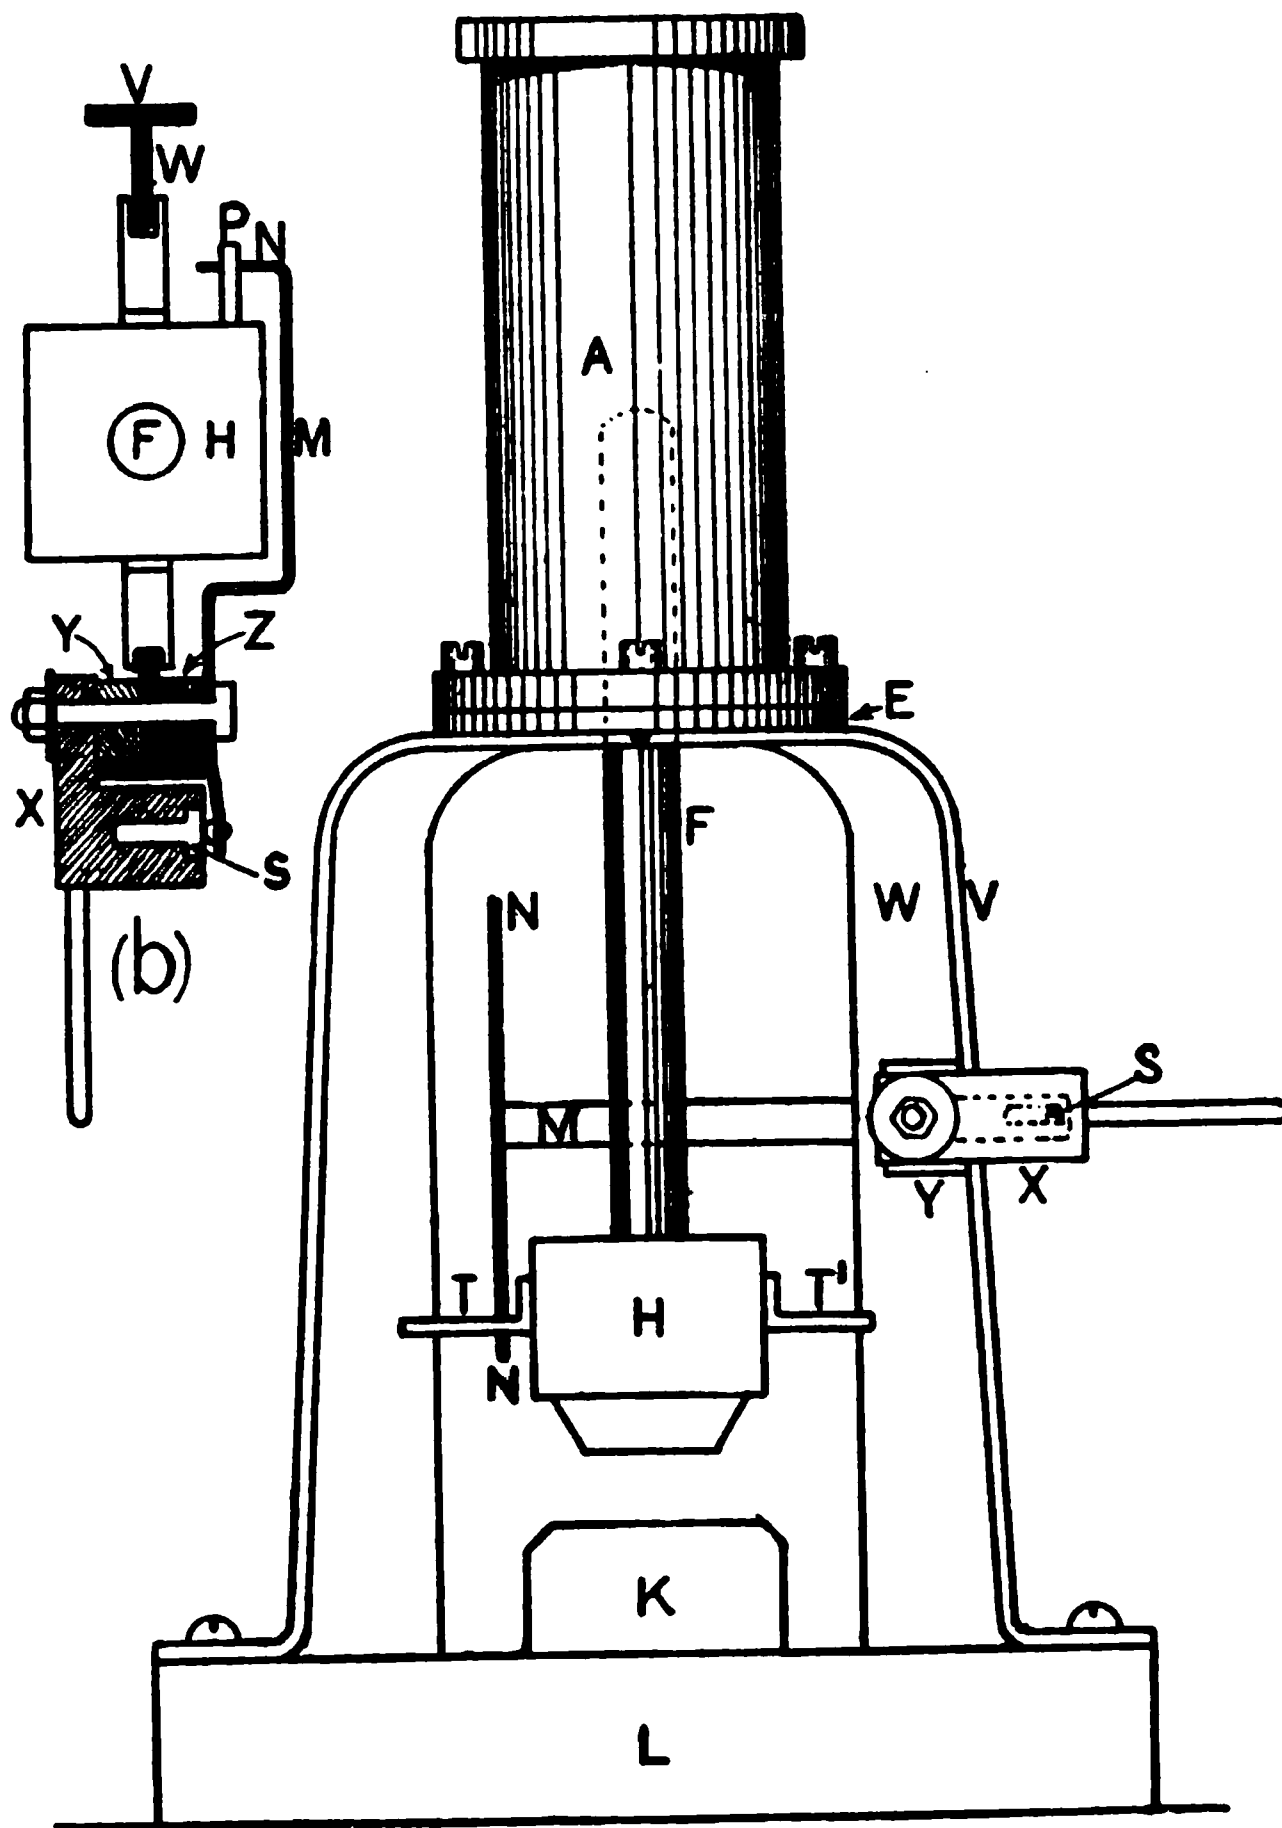

Fig. 92.—Electric hammer.
**T**HIS effective little model is an easily-constructed novelty, which, though of no practical use, will give much amusement to young people. The steam cylinder of a steam-hammer is here replaced by a hollow coil, A, wound with silk-covered wire. When an electric current is passed through this, it sucks up, as it were, the steel rod, F, to which a hammer, H, is attached. Just before the hammer reaches the top of its stroke it automatically breaks the circuit, and is left free to fall by its own weight. Before the end of the down stroke the circuit is completed again, and the hammer rises. The vibrations will continue as long as current is supplied to the coil. (Fig. 92.)
Near the rear end of  $M$  is soldered the head of a round-headed brass nail, which sweeps over a small brass contact-piece bedded flush in  $X$ . This is shown dotted in Fig. 92.